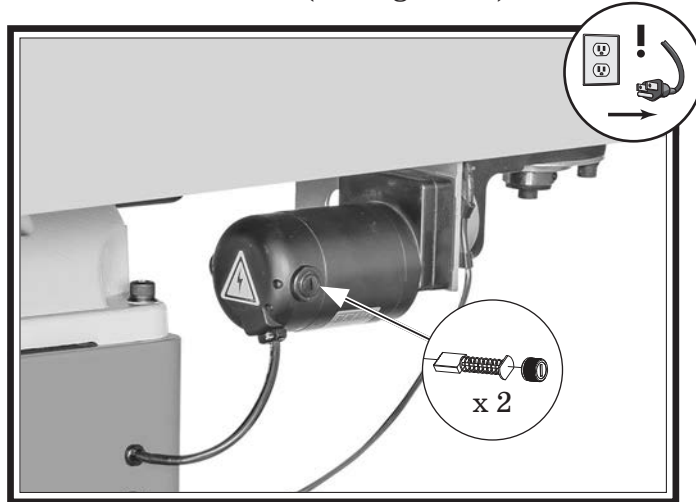

Figure 58. Location of brush caps on oscillation motor.
2. Remove brush caps and worn brushes from oscillation motor (see **Figure 58**).